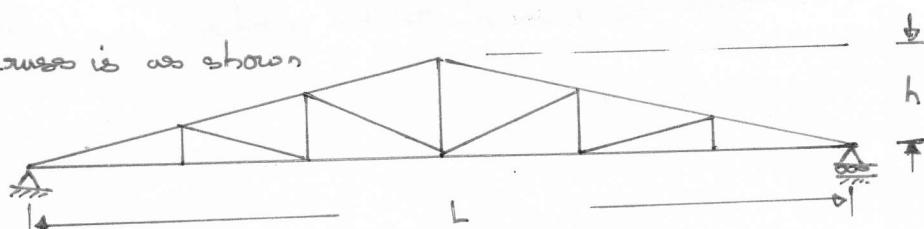

Fig. 3.0 Pratt truss
- viii) A Pratt truss is as shown in fig. 3.0